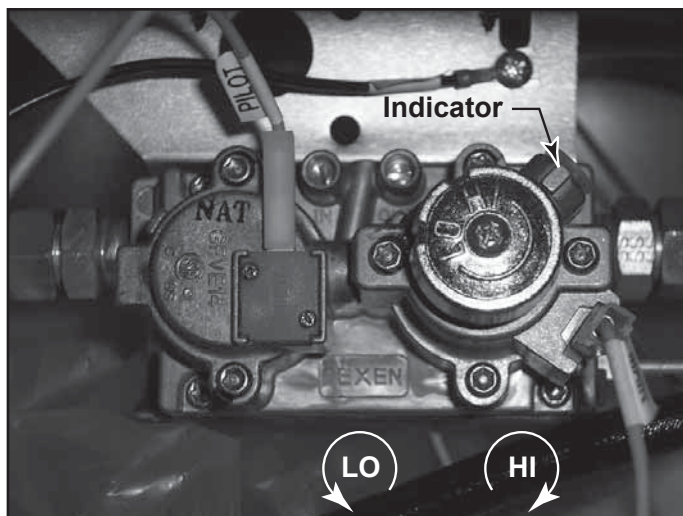

Figure 2.3 DEXEN Valve - IntelliFire Ignition System
- Compare your valve to Figures 2.3.